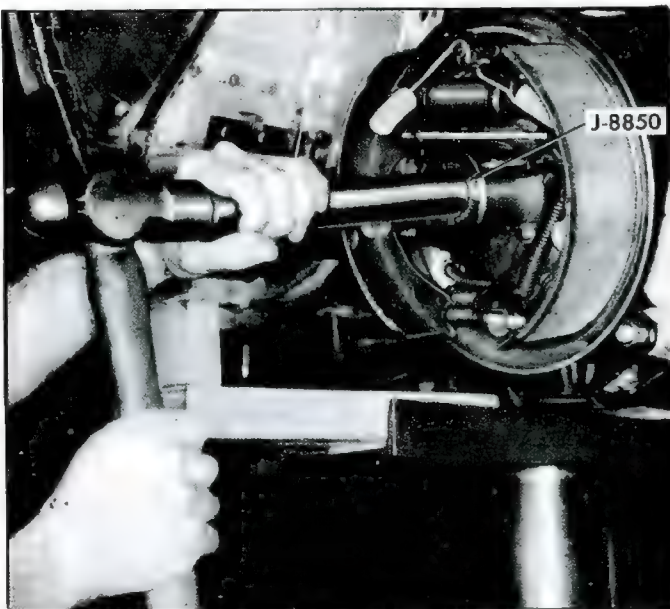

Fig. 70—Installing Spindle Support Outer Bearing
2. Install new bearing cups, using Tool J-8850 for outer bearing and Tool J-7817 for inner bearing (figs. 70 and 71).